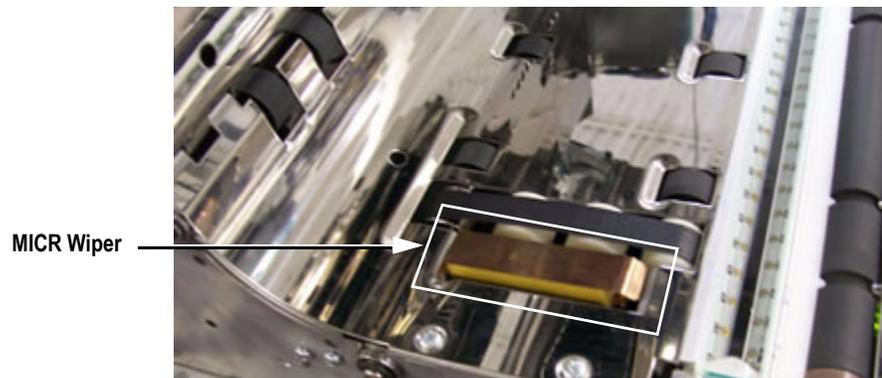

FIGURE 35: Location of the MICR Wiper
- 3 Locate the MICR wiper (see Figure 35).